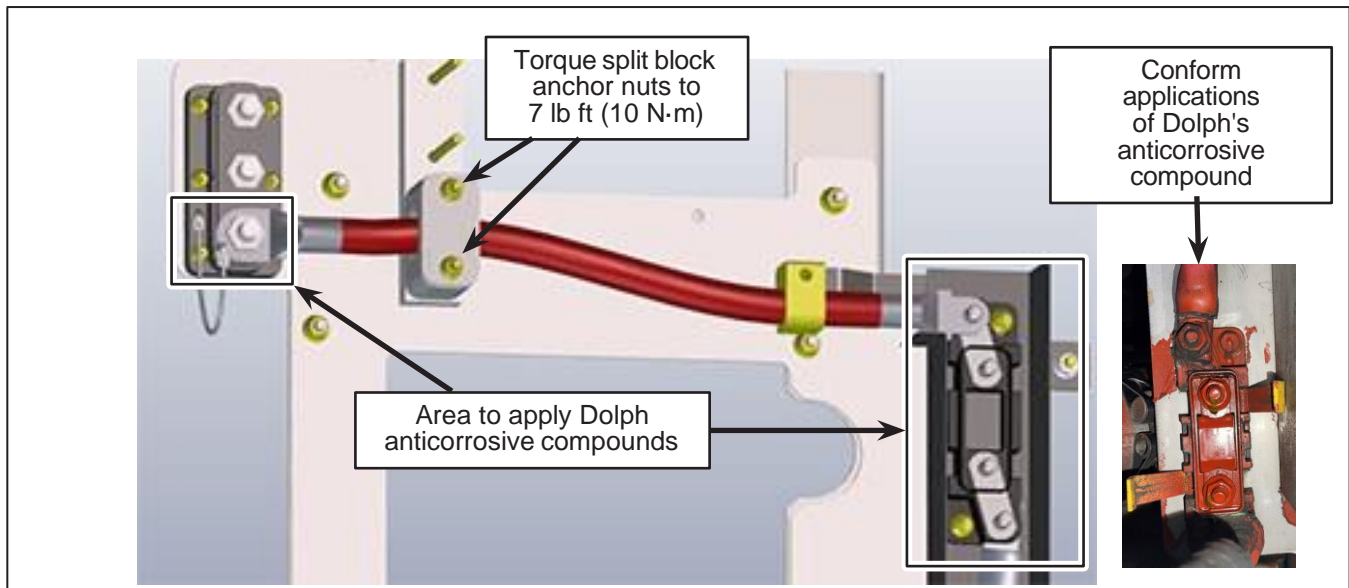

Figure 11 - Area to Apply Dolph's Anticorrosive Compound N86800
- 1.30. Using a brush, apply a liberal amount of N86800 Dolph's anticorrosive compound on the exposed metallic surface of the connections on the junction block terminal and the terminal of the fuse holder to protect them from corrosion. The product must cover completely the metallic surface of the connections, the electrical connection points of the fuse, the exposed metallic parts of the cable lugs connected to the fuse holder, and the fuse holder anchor bolts. Avoid covering the cables shrink tubing. See Figure 11.
- 1.31. Allow 15 minutes for drying time. Then repeat the previous step to apply a second layer of the anticorrosive compound. See Figure 11.
- 1.33. Install the rest of the split block and affix the split block to the structure using the retained hardware. See Figure 11 for torque value.